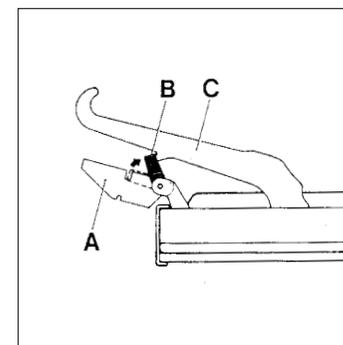

FIG 1
1. (FIG 1) At either side of the door, the hinges (A) have two clips (B) which can be moved. Normally these remain flat against hinges (A). Open the door fully and hook the clips (B) to the part (C) of the hinges. The door assembly can now be removed.